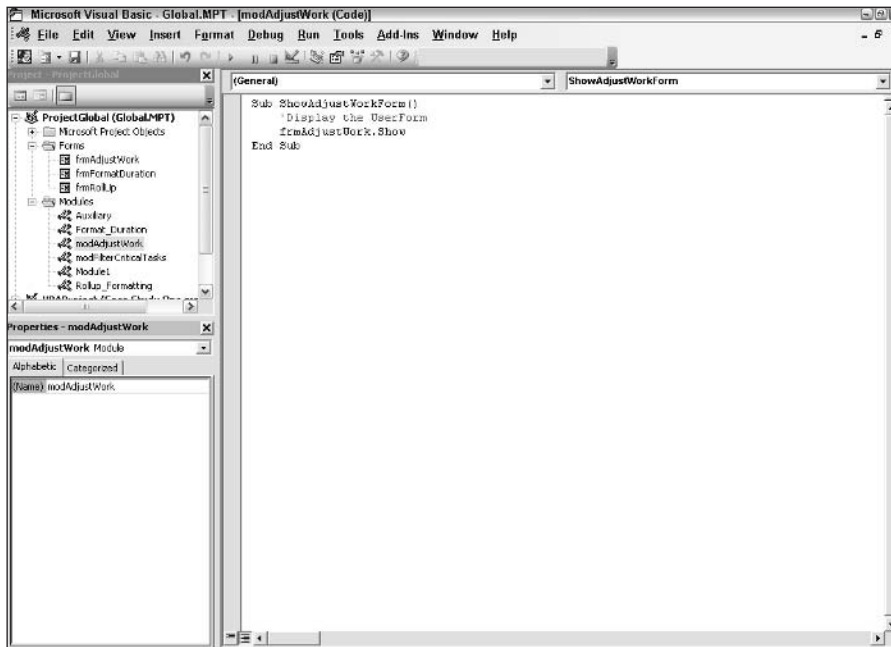

Figure 25-23: The ShowAdjustWorkForm sub procedure displays the UserForm.
3. In the Code window, add the following sub procedure (see Figure 25-23):